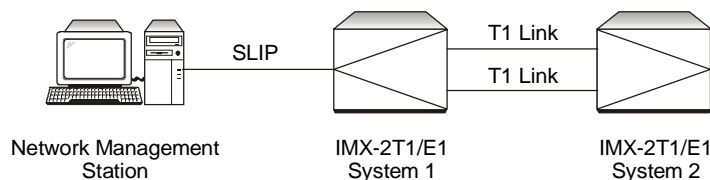
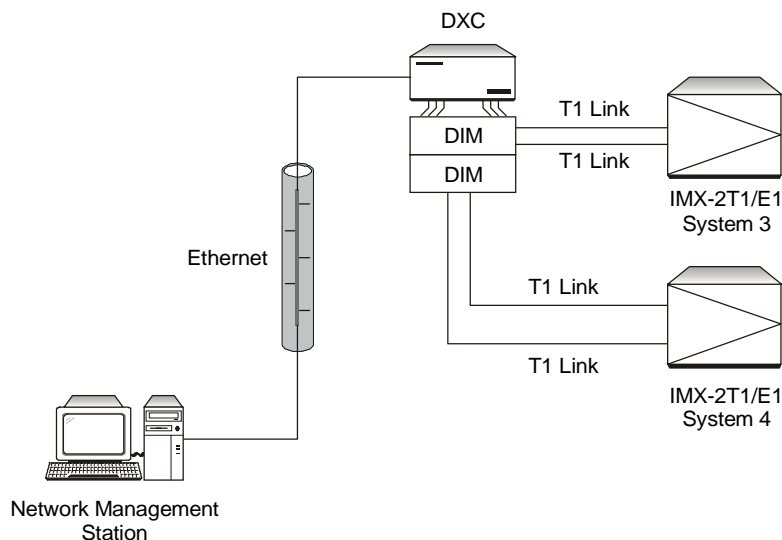

Figure 1-2 Point To Point Remote Management
Figure 1-3 Central Solution Remote Management
The network shown in Figure 1-2 and Figure 1-3 can be managed by a single network management station, because the flexible routing capabilities of the SNMP agent can carry the management traffic over many different paths. For example, the following paths can be made available for the management traffic, when the management station is attached to the IMX-2T1/E1:
- The network is connected to the network management station using a single serial communication link, attached to the CONTROL DCE port of the IMX-2T1/E1(system 1) as illustrated in Figure 1-2.
- The network is connected to the NMS using an Ethernet interface to the DXC located at a central site. Management of the remote site is performed by In-band communication using the DIM module via T1 links. Each DIM module has one download channel, see Figure 1-3.